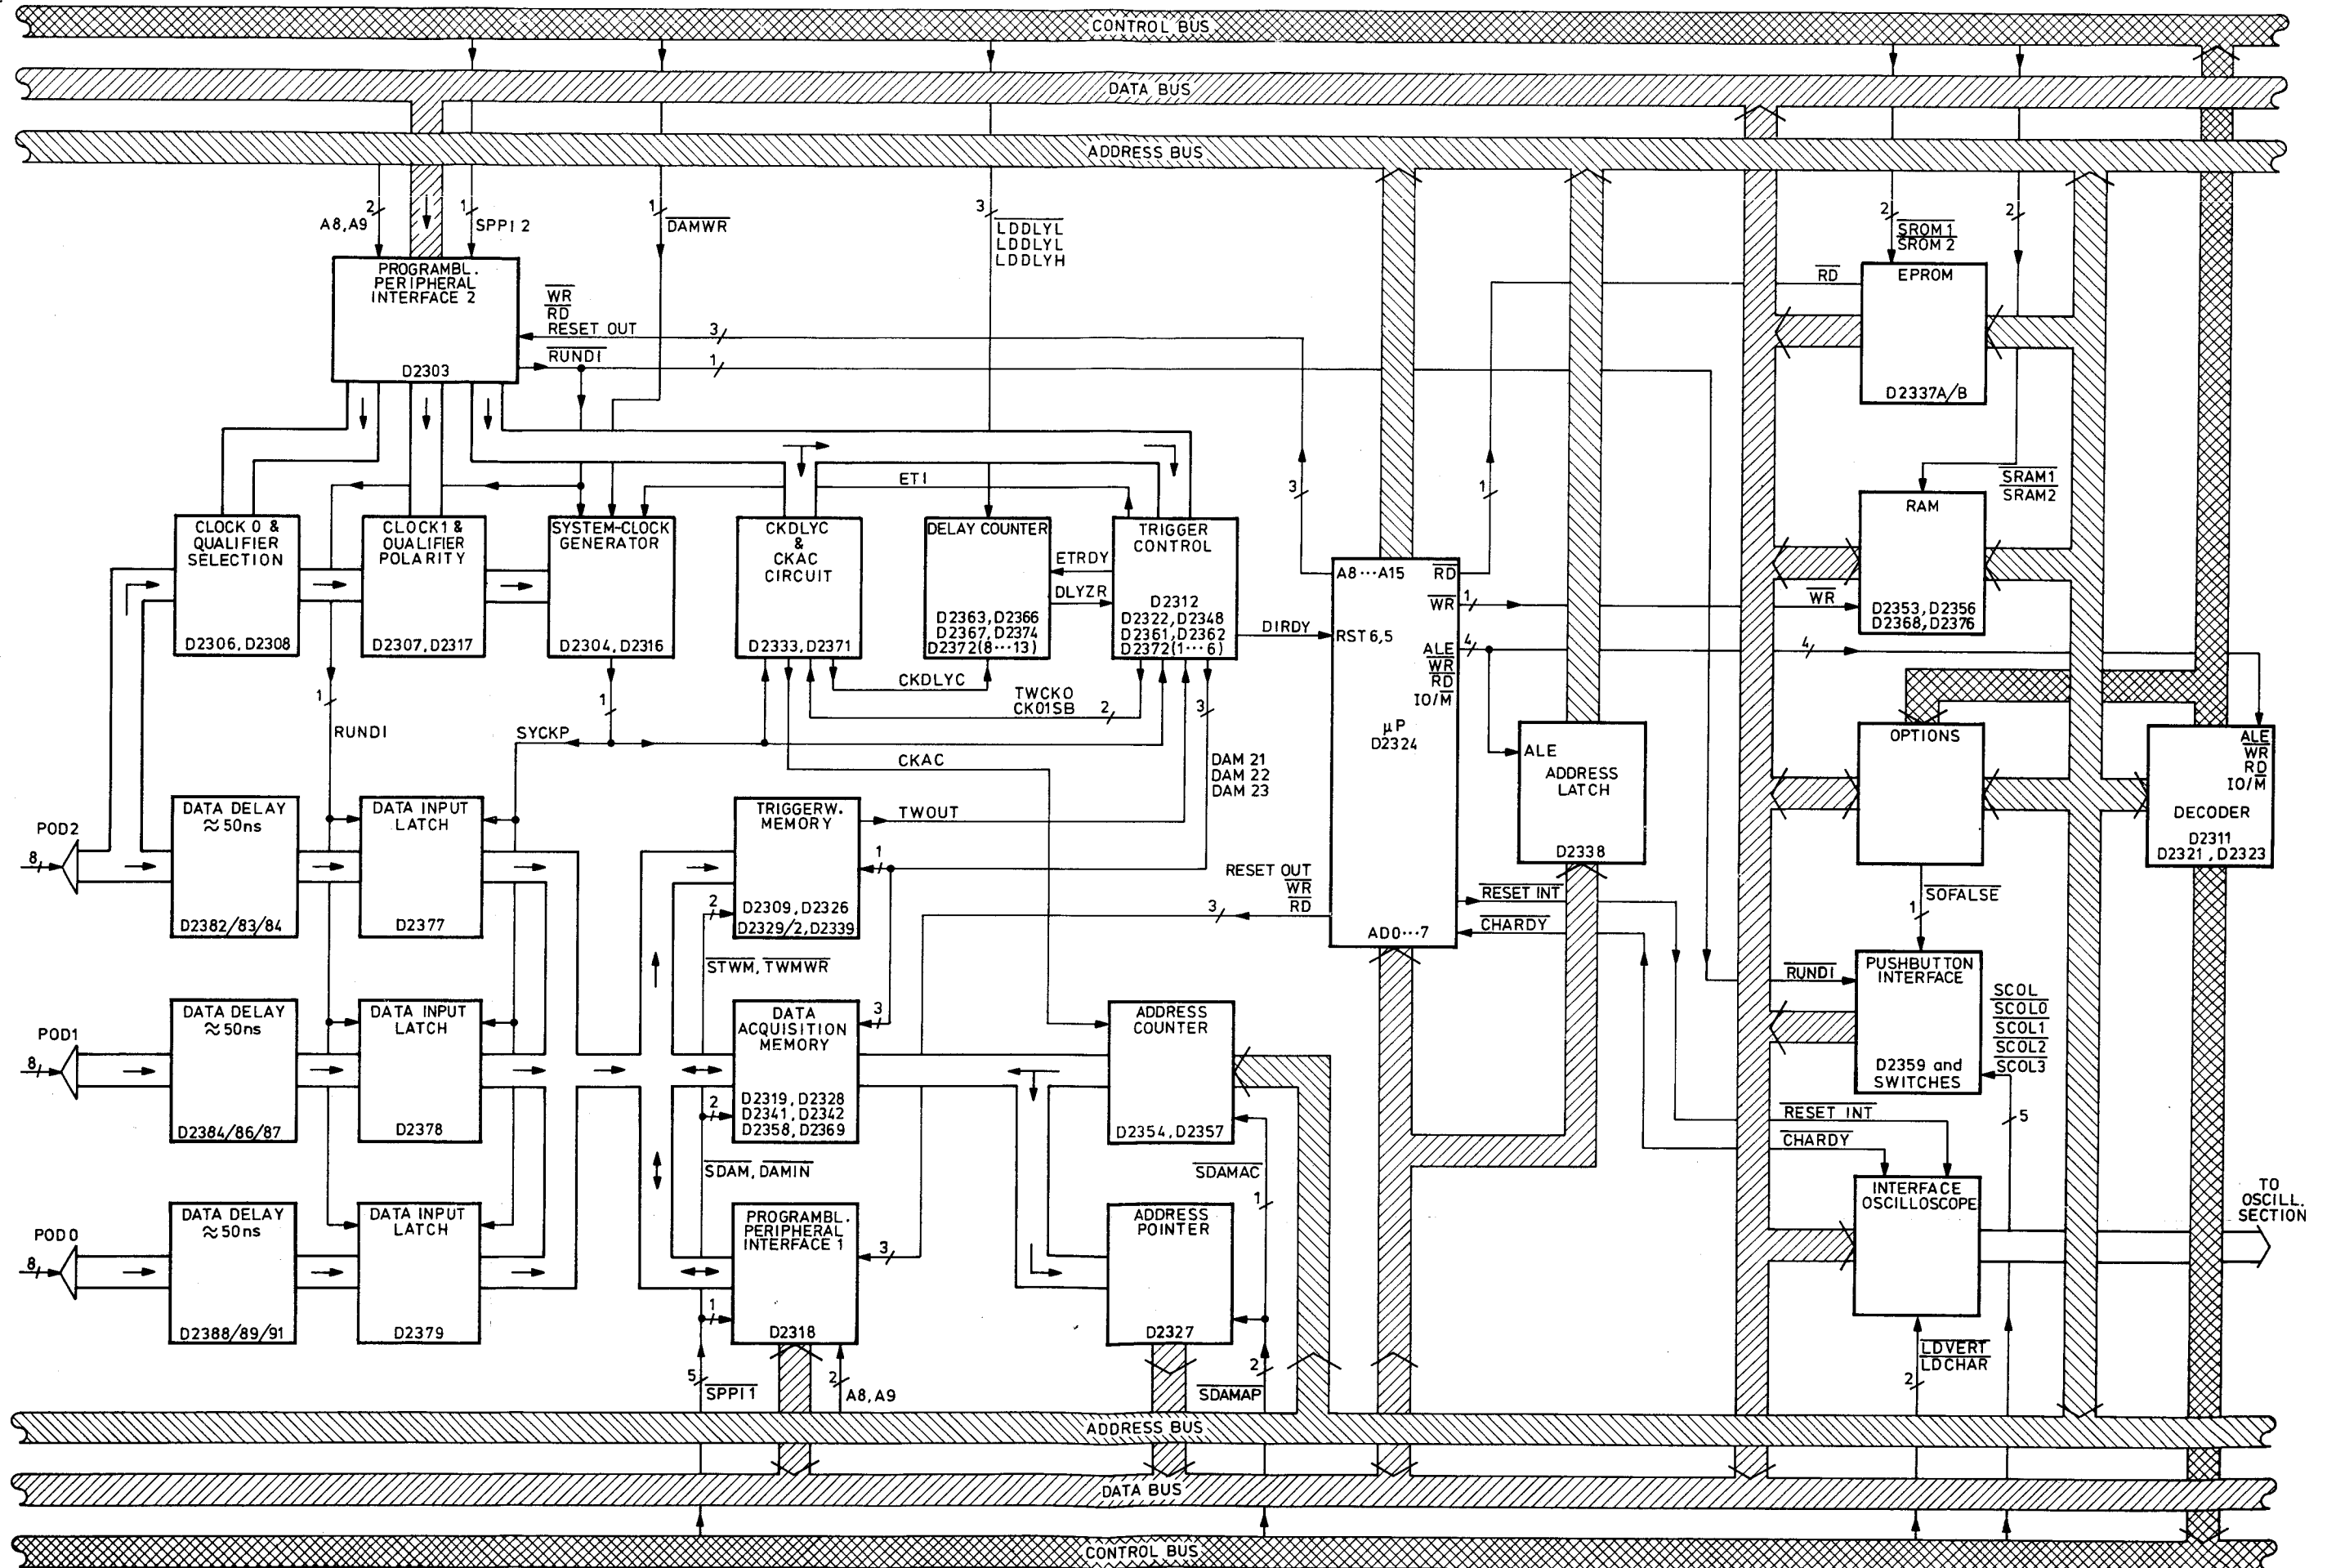

Fig. 1.5. Block diagram of the state analyzer part PM 3543
1.4. Description of the block diagram (see Figure 1.5.)